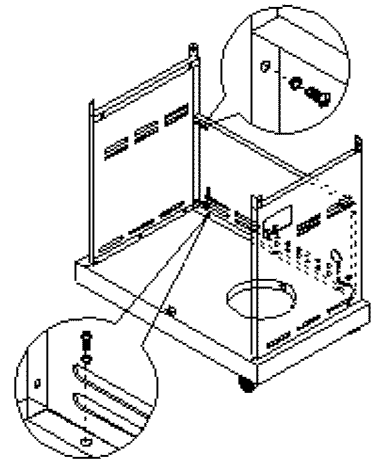

Figure 4
4. Remove (4) $\frac{5}{32}$ x $\frac{3}{8}$ " Phillips head screws and $\frac{5}{32}$ " lock washers from door handles firstly, then attach door handles to doors. (Fig.4)